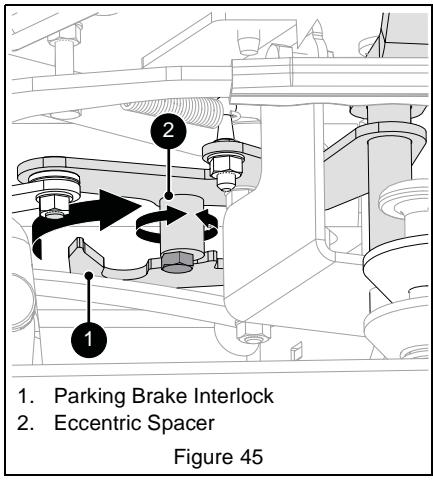

Figure 45
5. Engage parking brake and rotate eccentric spacer so it aligns in brake interlock. See Figure 45.